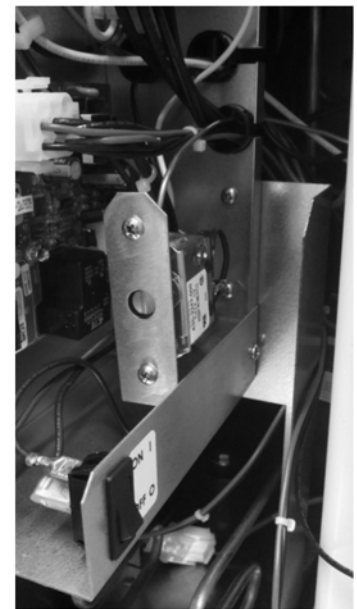

Figure 6: Thermostat in control box
9. Install the thermostat bracket in the control box as shown in Figure and Figure 6, attaching it with the screw removed in the previous step.